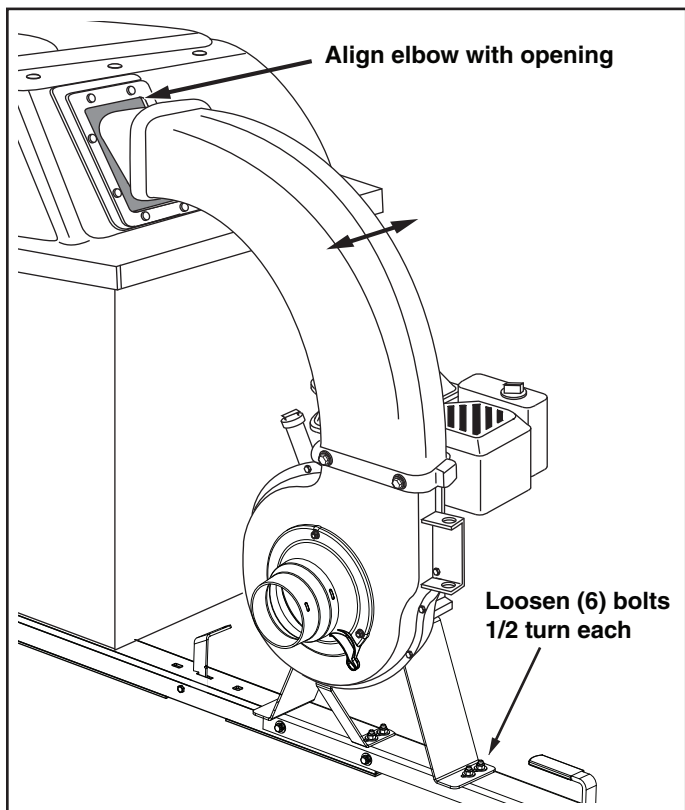

FIGURE 9
- b. Loosen by approximately 1/2 turn each, the six bolts that you assembled that fasten the engine base to the tongue. See figure 9.